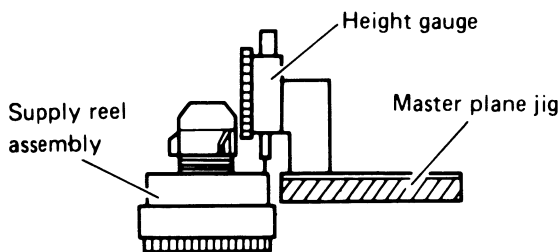

Fig. 4 Reel height adjustment
3. Check reel assembly height measure at two places 90° apart. (± 0.2 mm) (**Fig. 4**)